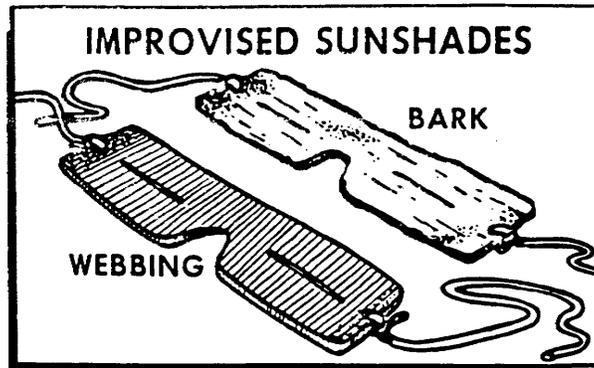

Figure 3. Improved goggles.
(1) When exerting the body, prevent perspiration by opening clothing at the neck and wrists and loosening it at the waist. If the body is still warm, take off outer layers of clothing, one layer at a time, for comfort. When work stops, put the clothing on again to prevent chilling.
(2) In strong wind or extreme cold, as a last resort, wrap up in whatever fabric is available, and get into some type of shelter or behind a windbreak. Take extreme care with hard materials, such as synthetics, as they may become cold soaked and require more time to warm.
(3) Keep the head and ears covered. You will lose as much as 50 percent of your total body heat from an unprotected head at 500F. To help prevent sun or snow blindness, wear sun or snow goggles or improvise a shield with a small horizontal slit opening (Figure 3).